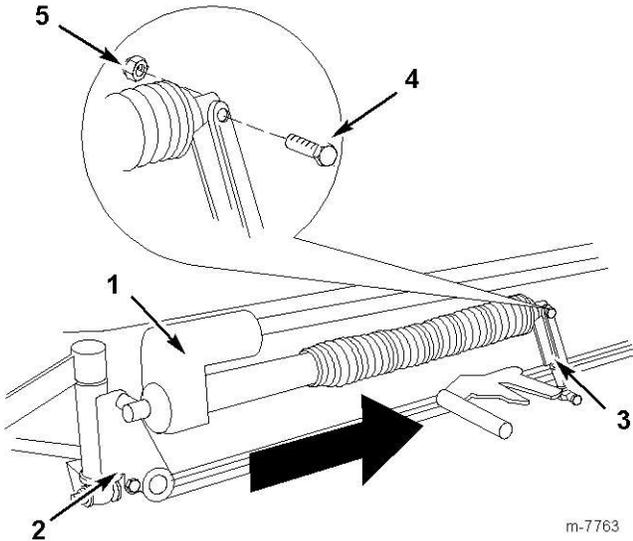

Figure 16
5. Power the actuator to extend the rod to reach the link (Fig 16).
6. Secure the actuator assembly to the link using a bolt (1/2 x 2 inch) and locknut (1/2 inch) as shown in Figure 16.